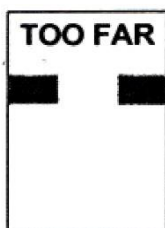

Figure 8
3.8 If the aircraft has gone past the correct stop position, the display will show "TOO FAR." (See figure 8).